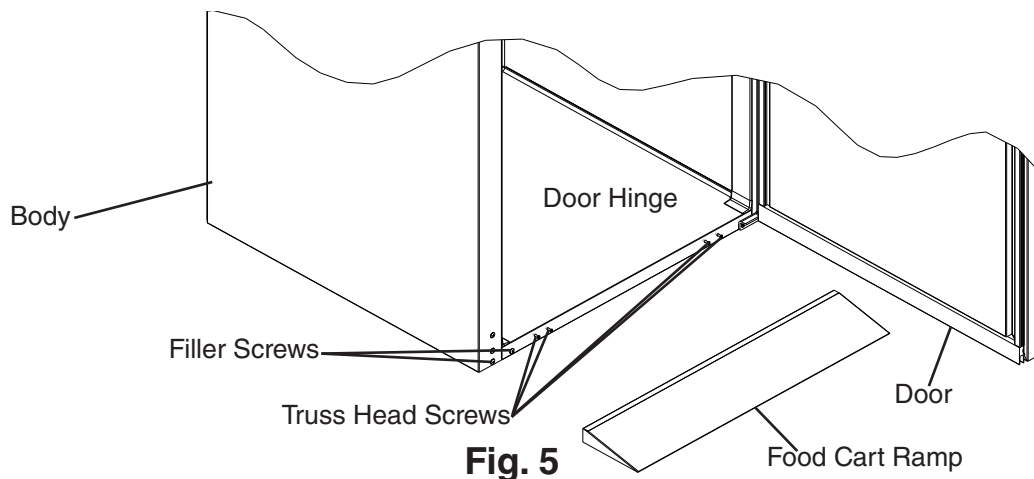
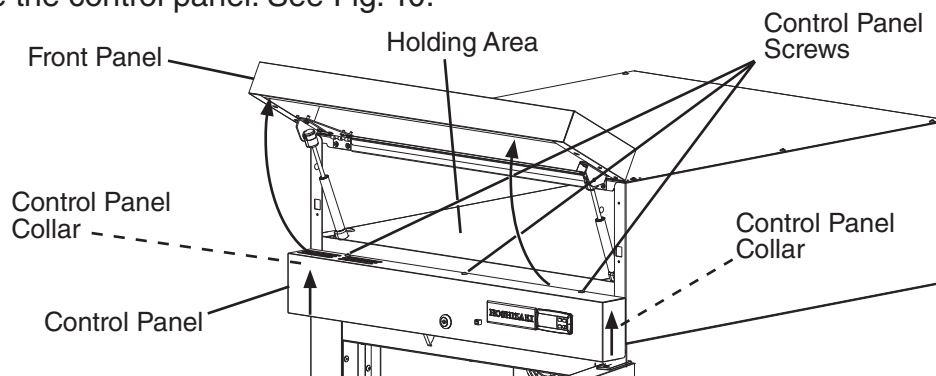

Fig. 5
Fig. 10
- 2) Remove the 2 filler screws from the bottom of the appliance. See Fig. 10. Next, loosen the 4 truss head screws at the bottom of the appliance 3 to 4 mm (1/8"), then lay the ramp onto the loosened truss head screws. See Fig. 5.
- 2) Raise the front panel, then remove the control panel screws. Next, lift the control panel up and lift off of the control panel collars. Be careful not to pull the wires on the control module and door switch(es), remove the control panel and place in the holding area above the control panel. See Fig. 10.